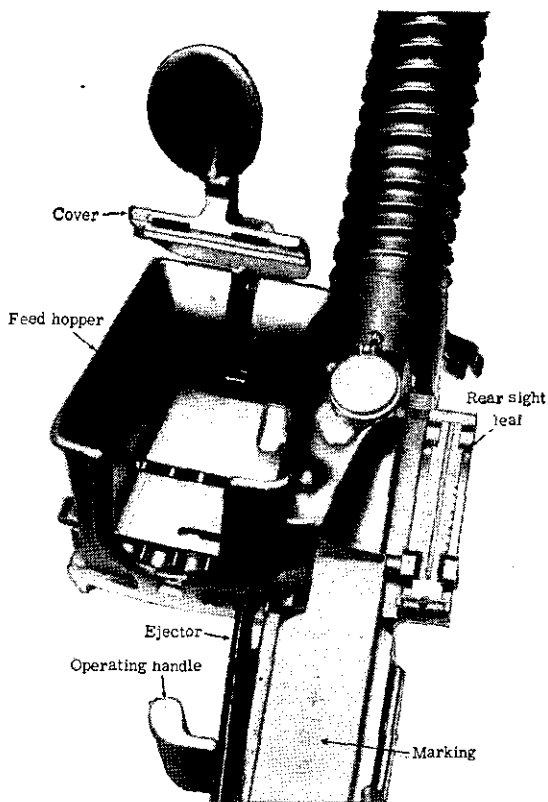

Figure 57.—Close-up of feed hopper (empty) of Model 11 (1922)
(1) The feed hopper (figs. 57 and 58) by which 30 rounds are loaded, consisting of six 5-round clips of rifle cartridges placed one on top of the other.
(2) The cutout section of the shoulder stock.
(3) The front and rear sights offset to the right.
(4) The marking $+一$ 年式 which is on top of the receiver. (This marking, which is read *Juichinen Shiki* from left to right,² means "11th year model.")